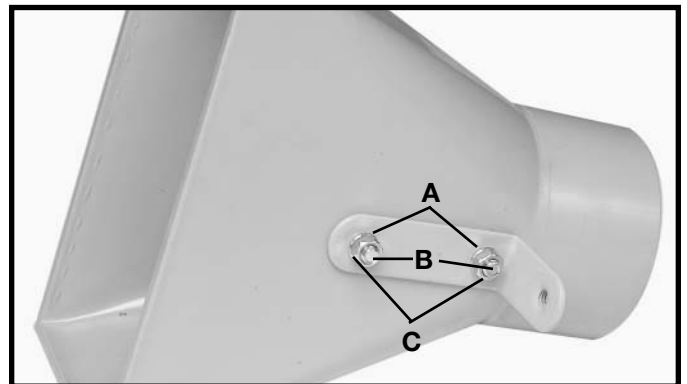

Fig. 12
6. Place a 5/16" lockwasher (A) Fig. 12, onto the bolt (B), and thread a 5/16-18" hex nut (C) onto the bolt (B) and tighten securely.